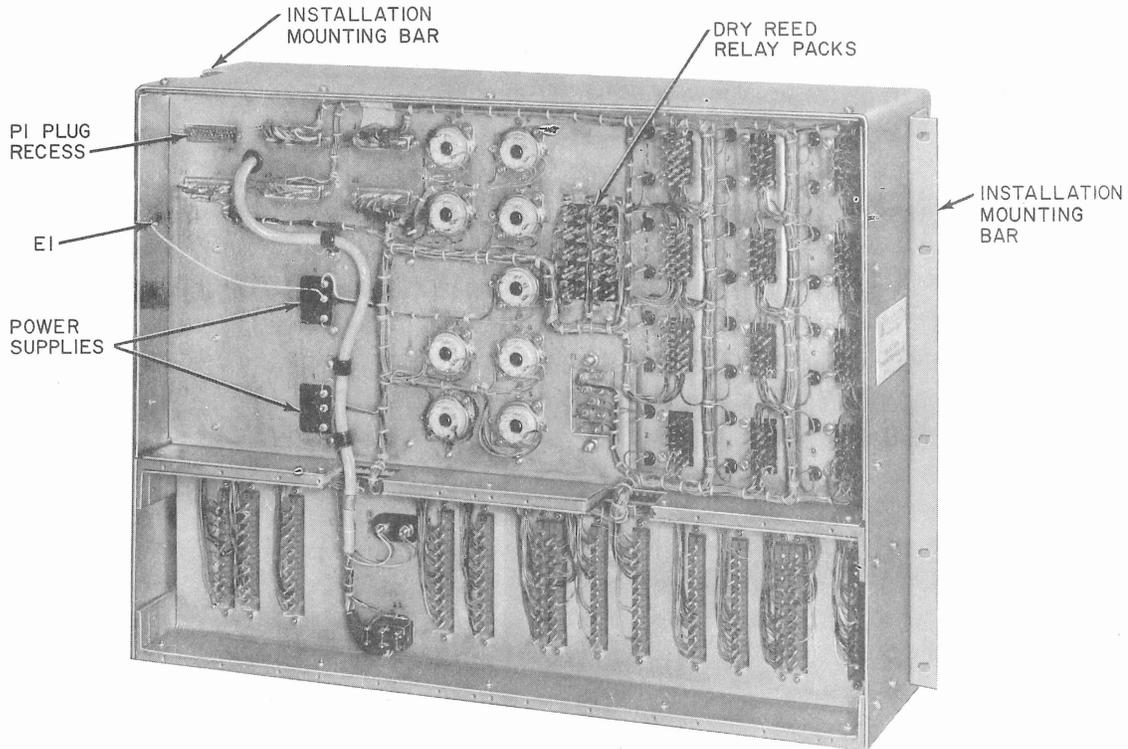

Fig. 2—Data Set 404A, Rear View
2.10 Data Set 404A weighs 53 pounds. Refer to Fig. 2 for a rear view of the set.